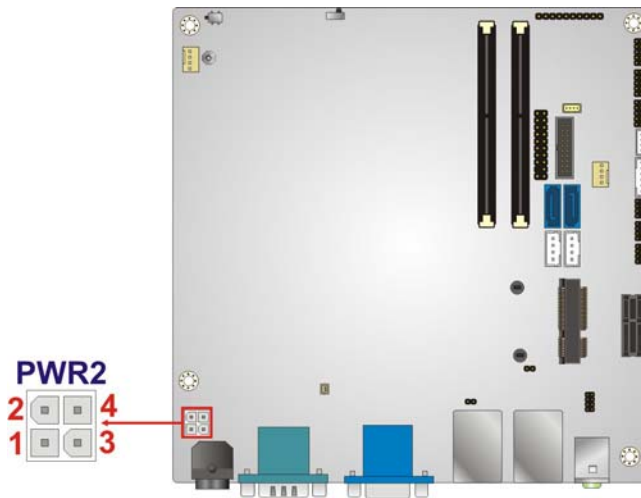

Figure 3-5: 12V DC-IN Power Connector Location
- CN Location:** See **Figure 3-5**